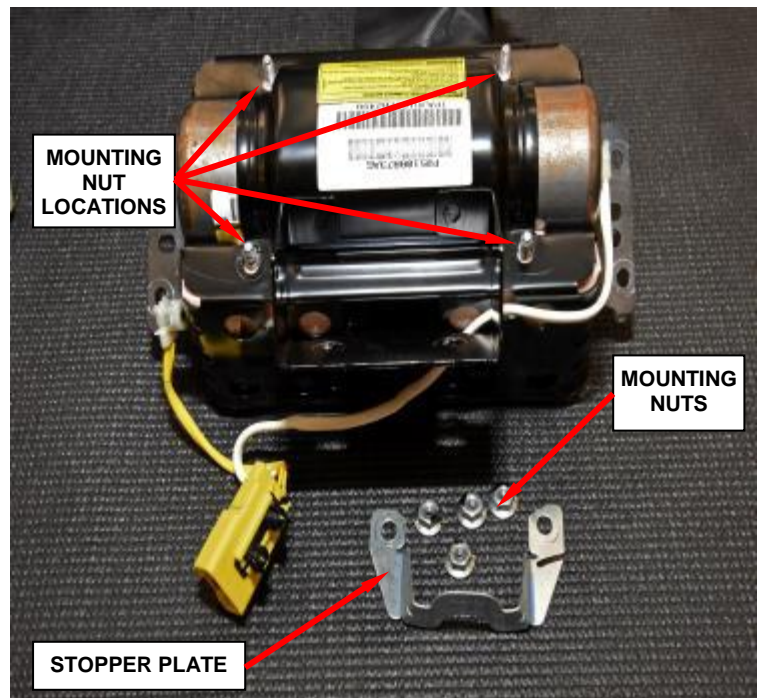

Figure 56 – Mounting Nuts and Stopper Plate
- e. Remove and **discard** the four inflator mounting nuts (Figure 56).